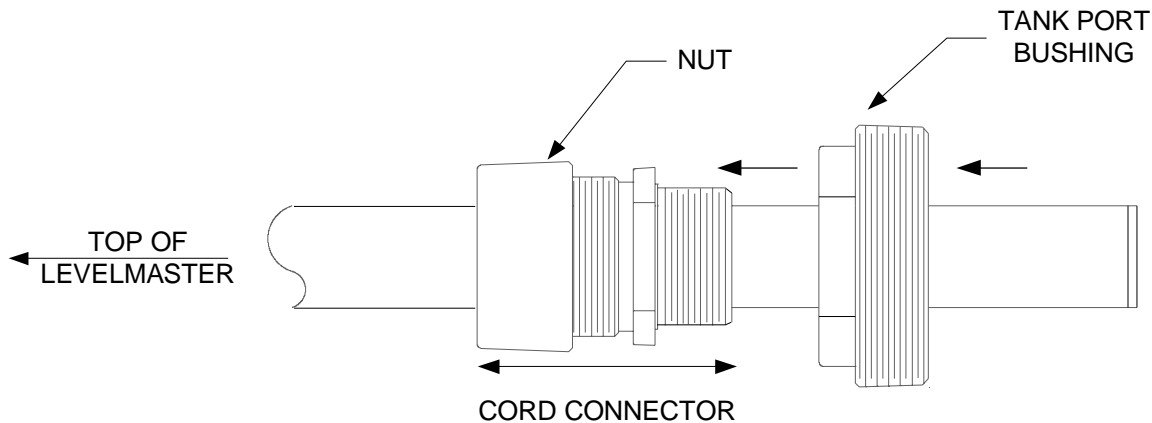

Figure 9: Cord connector and tank port bushing installation
4. Slide the cord connector and bushing into the bottom of the LevelMaster with the cord connector on top (Figure 9). The nut on the cord connector may need to be loosened so it slides freely on the casing.